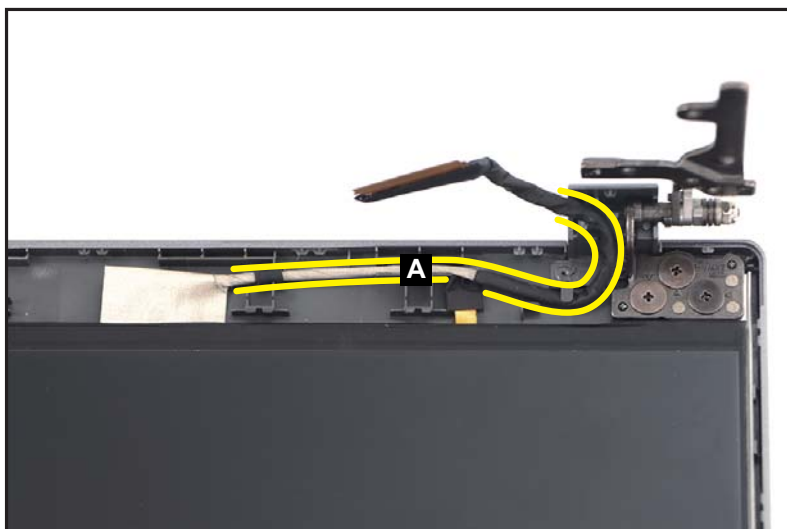

Figure 1-53. LCD Panel Removal
1. Unroute the LVDS cable (A) from the bottom side of the cable guides on the LCD cover as shown in Figure 1-53.